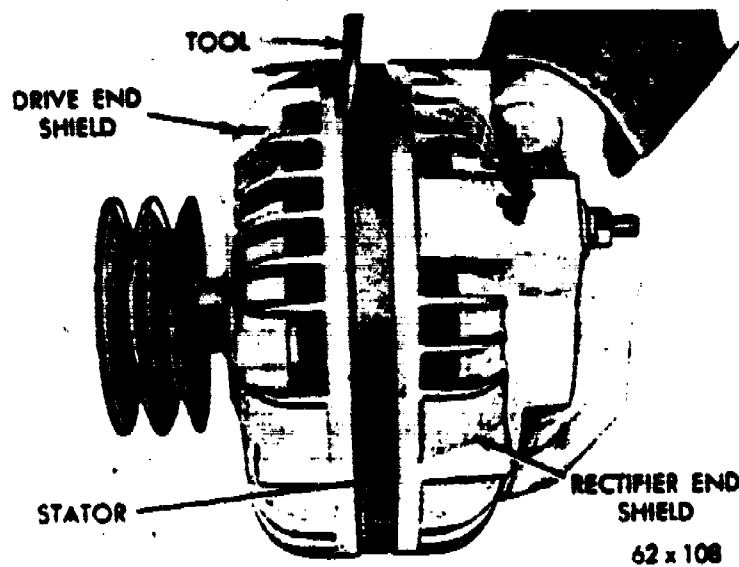

Figure 24. Separating Drive End Shield From Stator.
- 3. Separate the drive end housing pulley and rotor assembly from the stator and rectifier end housing assembly. 3. CAUTION: The stator is separated with the rectifier end frame to prevent damage to wiring, figure 24.